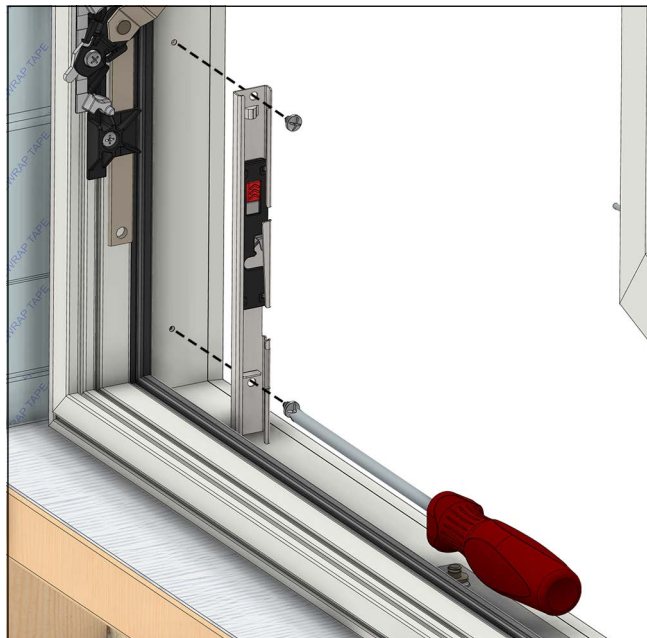

Figure 8
2. On the frame, attach the WOCD frame track with the two #8 x 1/4" screws provided. Use a #2 Phillips screwdriver to tighten. DO NOT OVERTIGHTEN. See Figure 8.